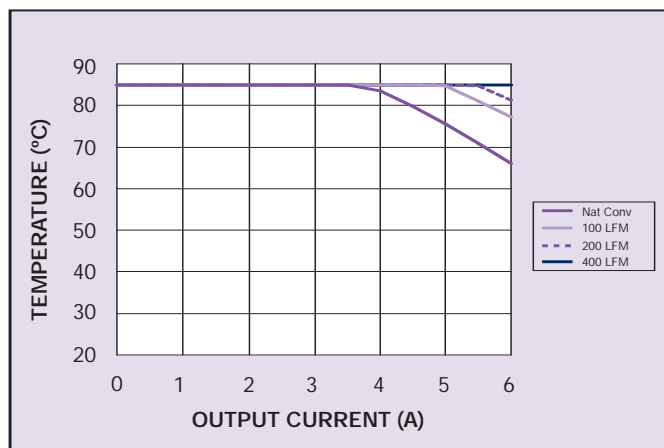

Figure 1 - Safe Operating Area for PTH12050W
- See Figure 1 for safe operating curve.